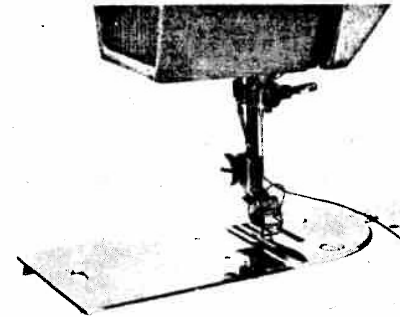

Fig 11
notch (A), press the bobbin case around the stud of the shuttle body (C) until the finger enters in the shuttle race notch. This operation is easy -- NEVER FORCE IT. Three or four inches of thread hanging free from the bobbin case will be brought up through the needle plate hole as shown in Fig. 11.
Hold the end of upper thread loosely and turn balance wheel toward you until the needle goes all the way down and comes back up. A loop (Fig. 11) will be formed over the lower thread which then can be pulled out straight. Place both thread ends under the slot of the presser foot and draw toward the back of the machine, leaving both threads three or four inches long.